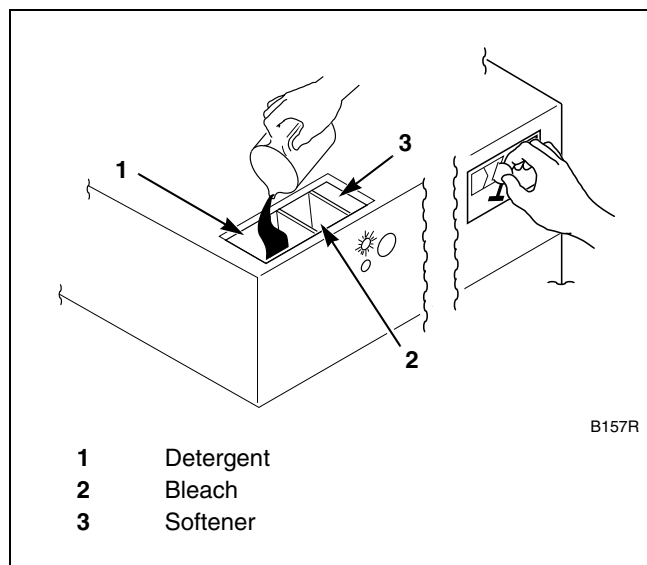

Figure 9
7. Add liquid and/or powder supplies to supply dispenser. Refer to *Figure 9*.